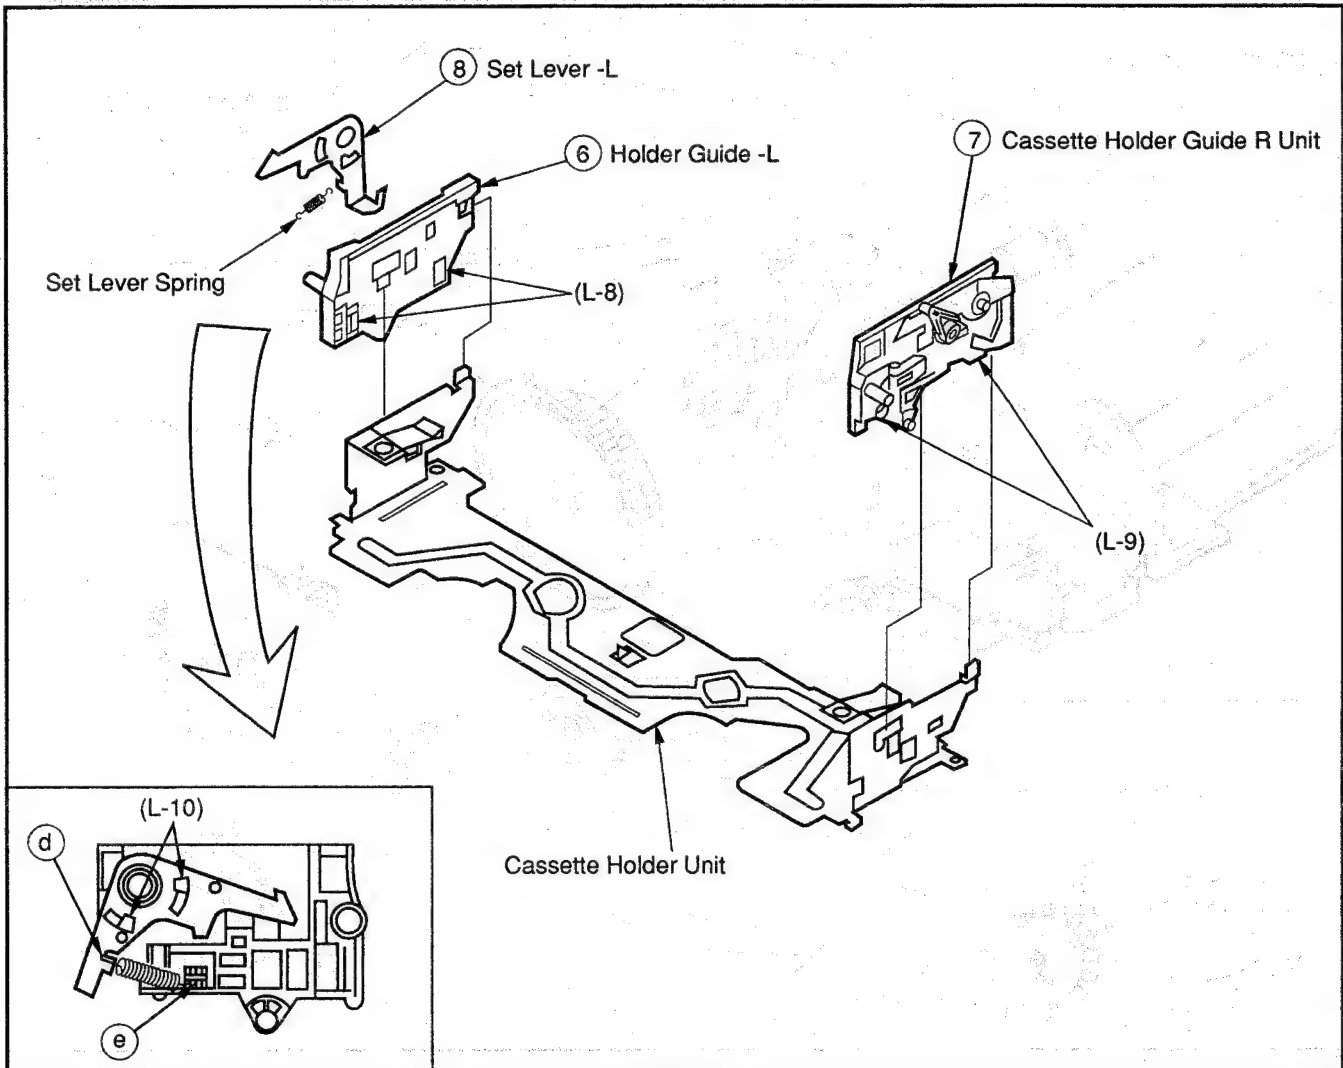

Fig. DA4
3. When installing Set Lever -L, as shown in Fig. DA4, fit the holes on the Set Lever over the hook of Holder Guide -L. Then hook the Set Lever Spring onto ④ and ⑤.
4. When installing Sub Plate -R onto Side Plate (R), put the slot of Wiper Arm -R over the pin of the Cassette Holder Ass'y in the Eject Position.